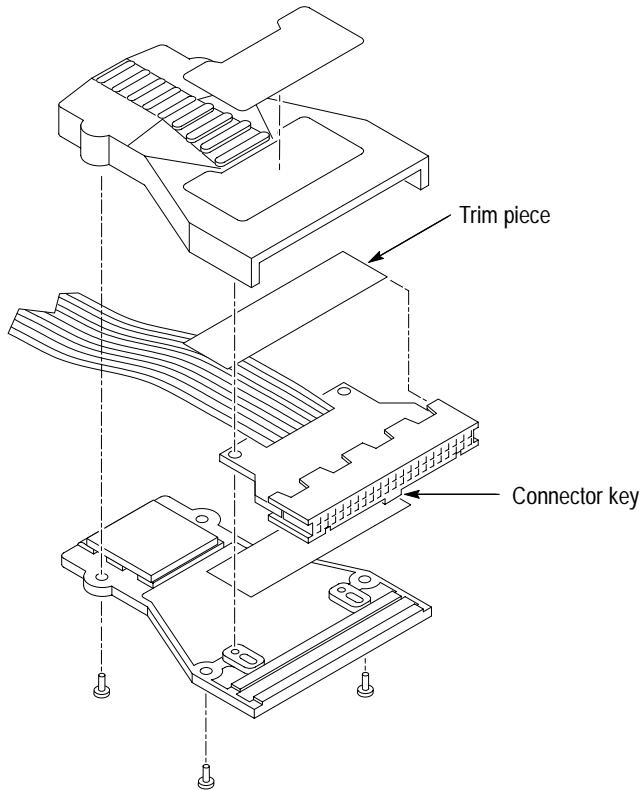

Figure 12: Reassembling the module end
2. On the module end, position the trim pieces in the connector housing as shown in Figure 12.
4. Attach the case halves and reconnect the screws as shown in Figure 12.